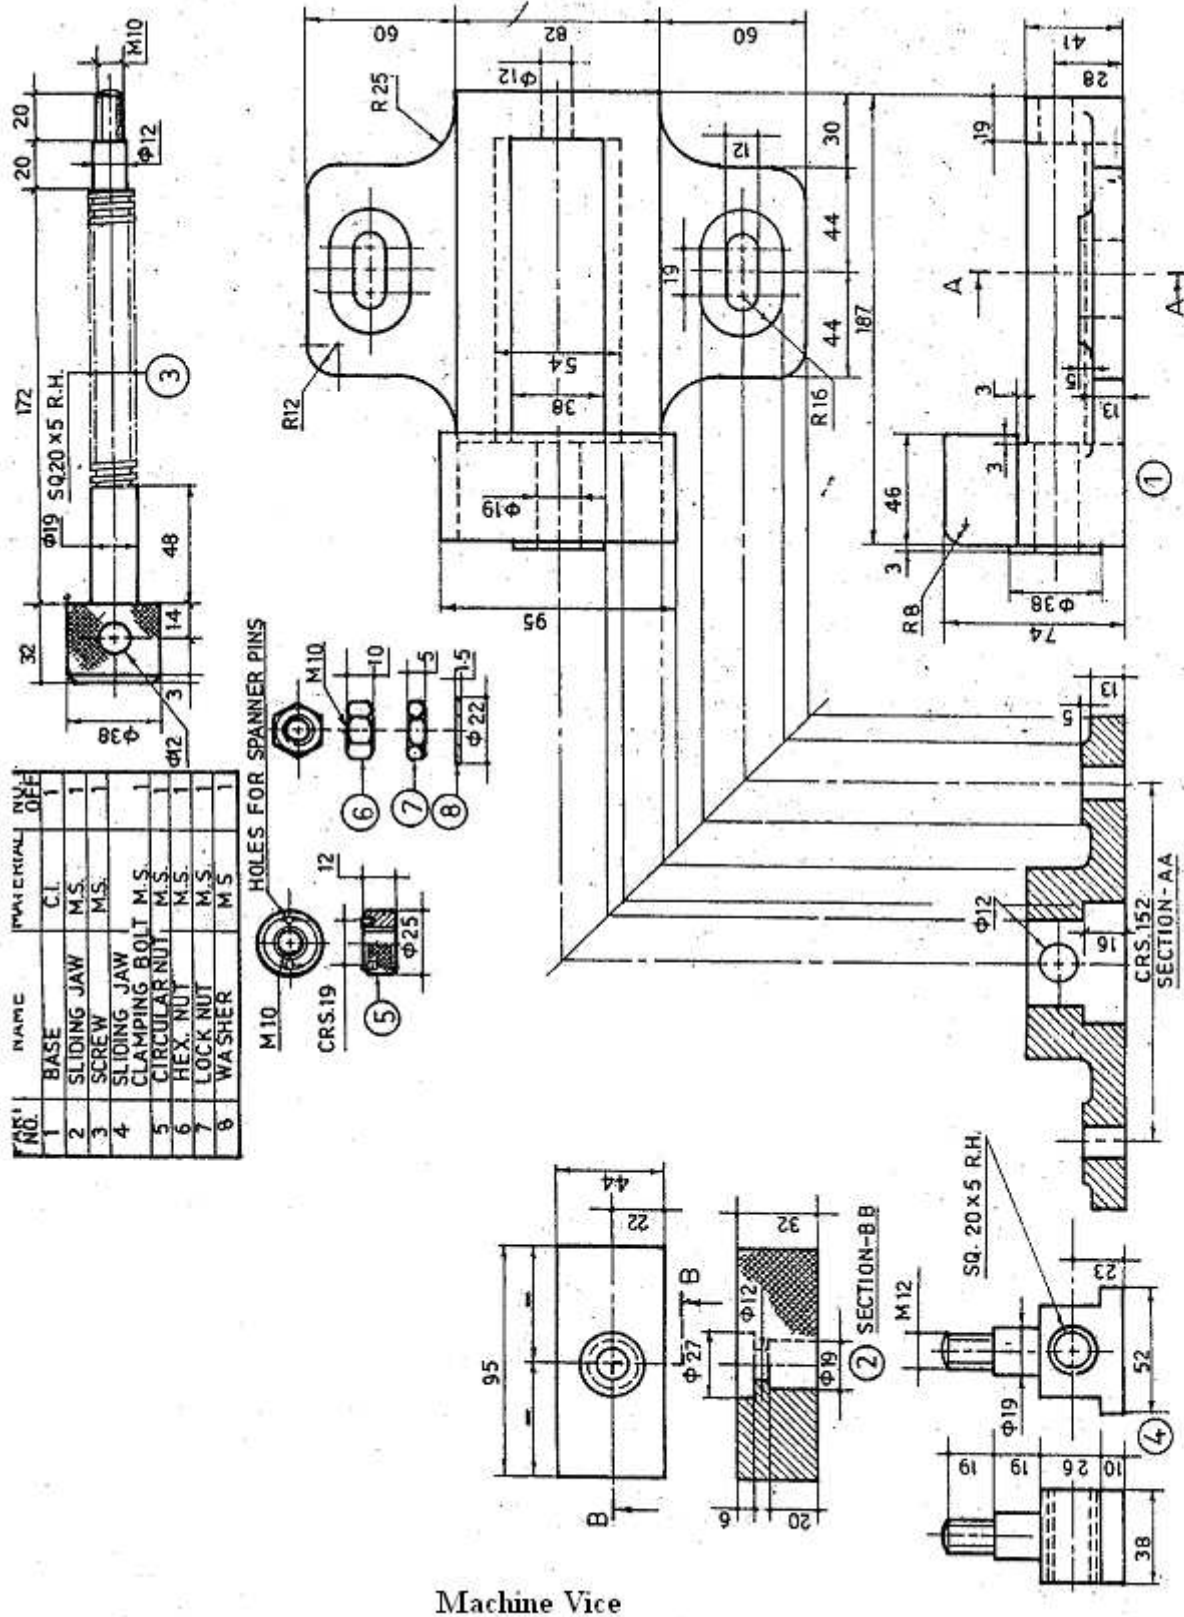

Figure 4:
2. Details of a machine vice are given in Figure 4 Assemble the parts and draw the following views.